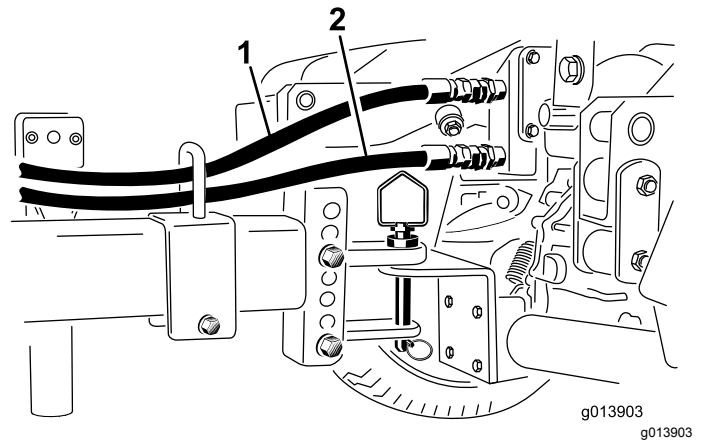

Figure 28
3. Plug the quick-disconnect fitting of the return hose (the hose with the arrow decal affixed) into the upper quick-disconnect fitting of the vehicle (Figure 28).
4. Plug the quick-disconnect fitting of the pressure hose into the lower quick-disconnect fitting of the vehicle (Figure 28).